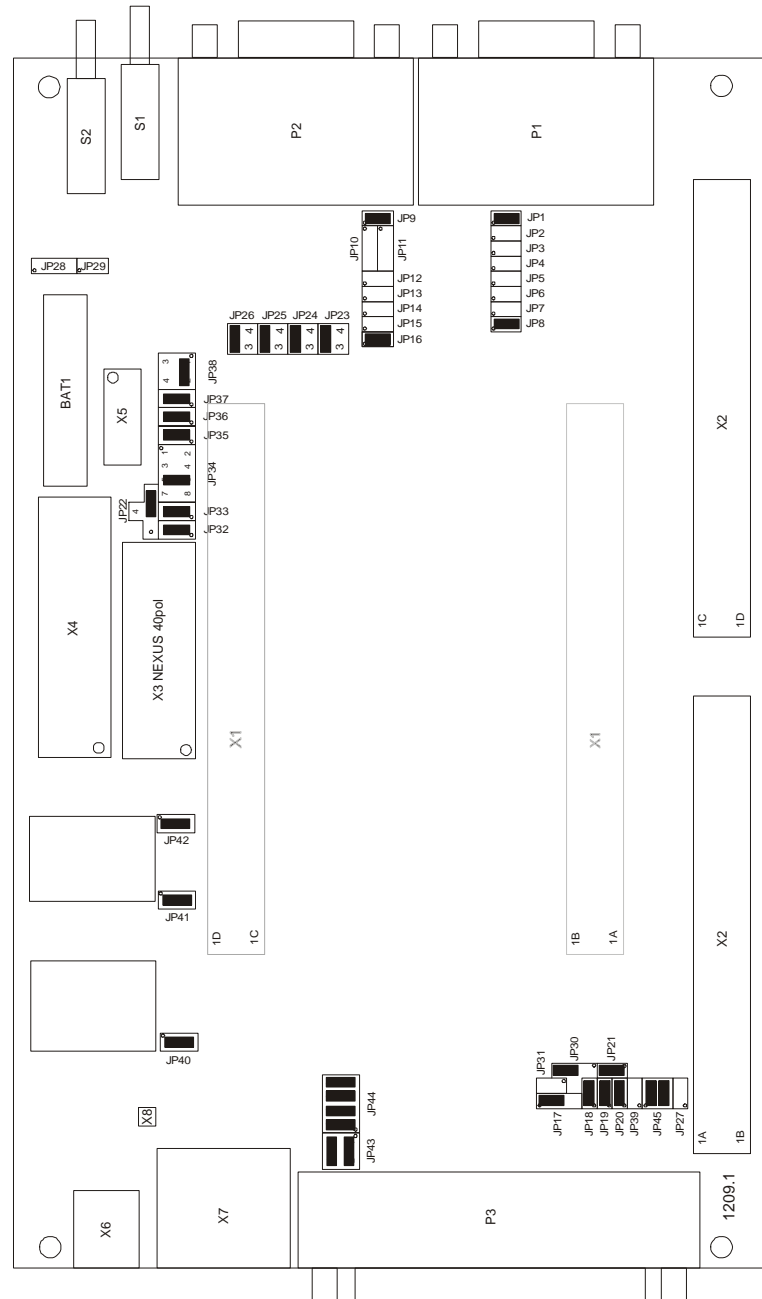

Figure 3: *Default Jumper Settings of the phyCORE Development Board PCM-991 with phyCORE-MPC565*
- Make sure Jumper JP17 on the phyCORE-MPC565 Development Board is closed at default position 1+2 (refer to Figure 3).